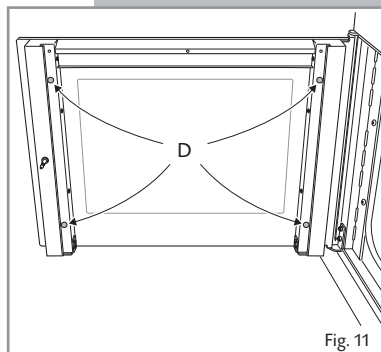

Fig. 11
- Check that the four rubber pads are in place (**D** in Fig. 11).